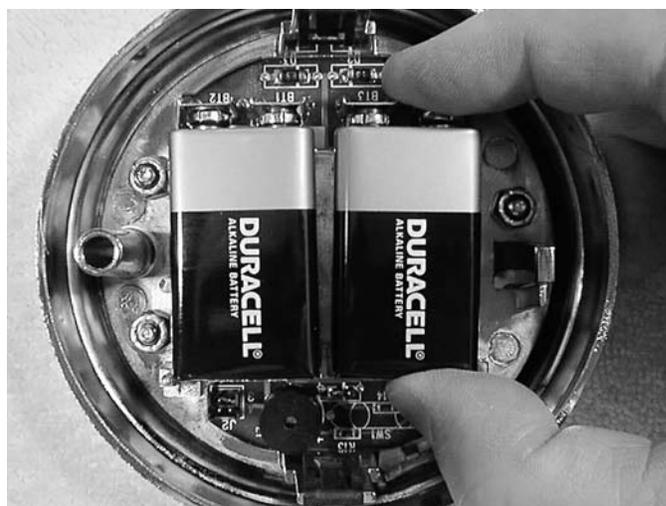

Figure 2
Step 3—Install new batteries by pushing them directly into the battery connectors attached to the keypad circuit board (Figure 2). It's important to support the connectors so they will not become bent during battery insertion. The connectors are designed to make it very difficult to install a battery incorrectly. Pay close attention to battery polarity so as not to damage a connector by forcing a battery into it backwards.